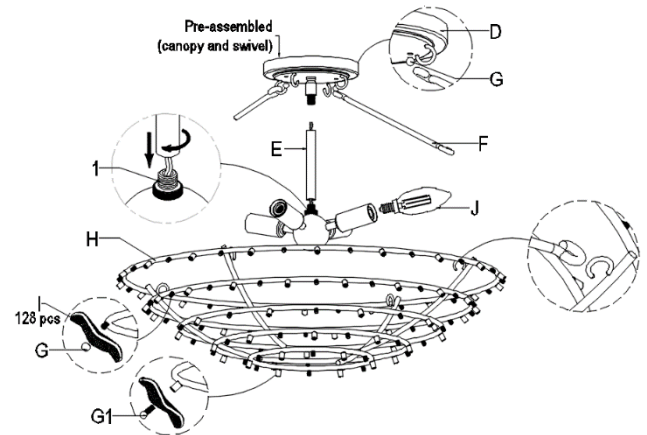

FIG. 2
ASSEMBLING THE FIXTURE (Fig.1 & Fig.2)
7. Tuck wire connections neatly into junction box (JB). Fig.2.
8. Raise the canopy (D) over the screw (C) and secure with decorative ball nuts (G).